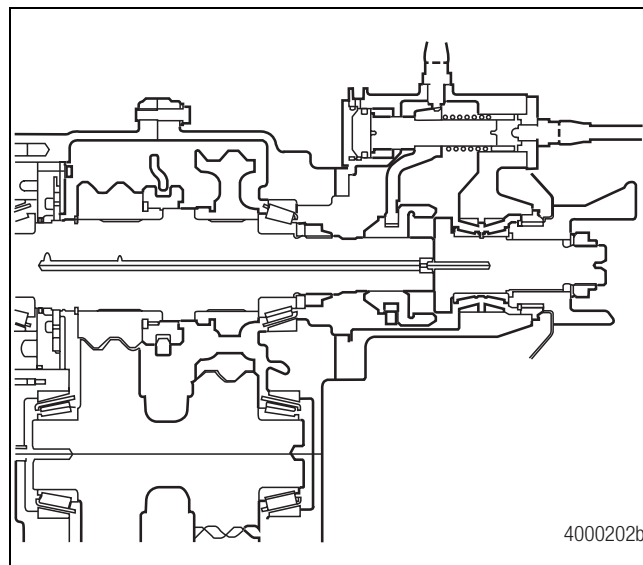

Figure 4.15
- Rotate the transfer case in the repair stand so that the PTO assembly, if so equipped, is facing UPWARD. Figure 4.15.